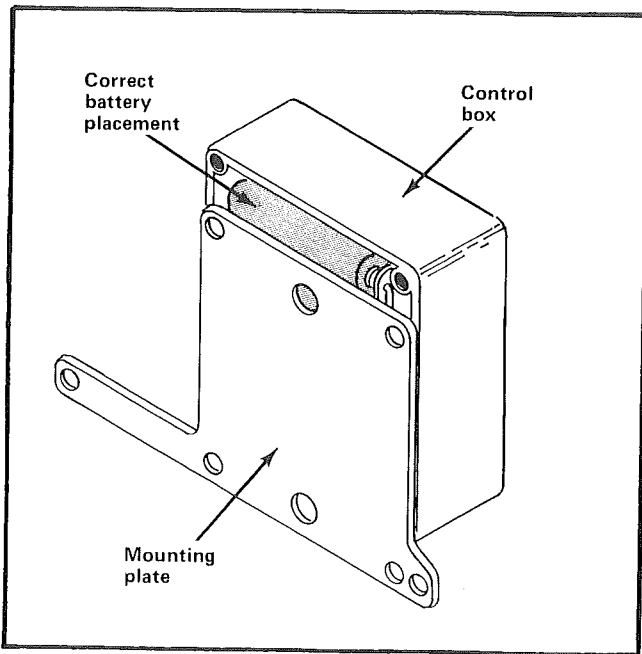

Fig. 2-7. Correct placement of the Writing Speed Enhancer mounting plate on the control box when used on a camera having a battery pack.
10. Re-install the mounting plate on the back of the control box. Use the four flat-head screws removed in step 6. See Fig. 2-7.